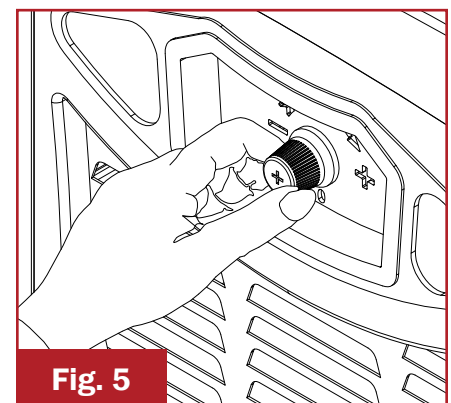

Fig. 5
2. To adjust the temperature, turn the thermostat knob on the side of the unit (Fig. 5). Rotate clockwise to increase the temperature and counter clockwise to decrease.